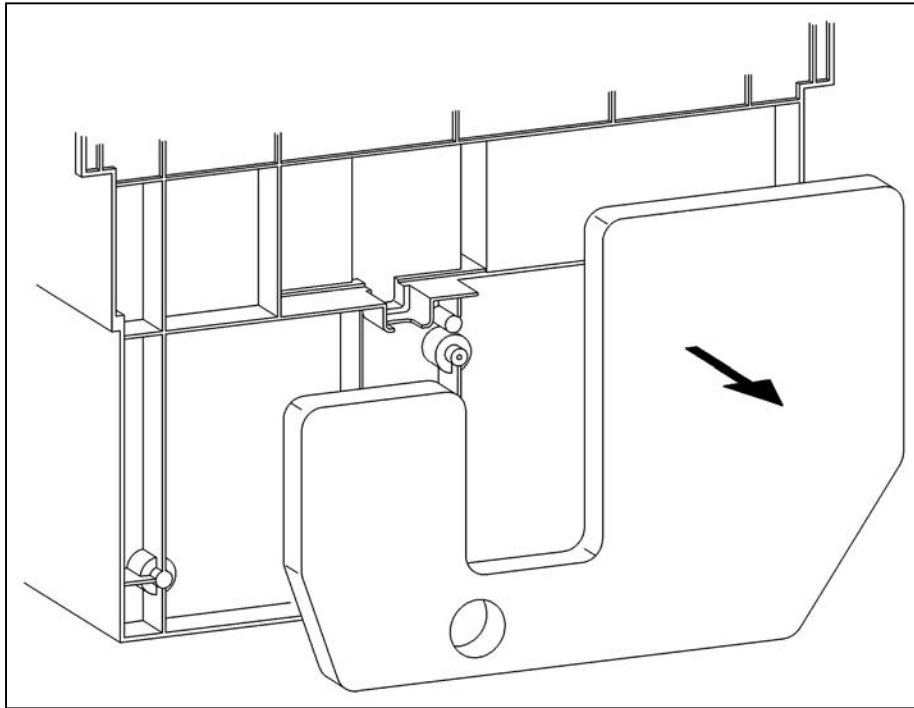

Figure 5-7: Drip Tray removal.
3. Remove the Drip Tray (Figure 5-7).